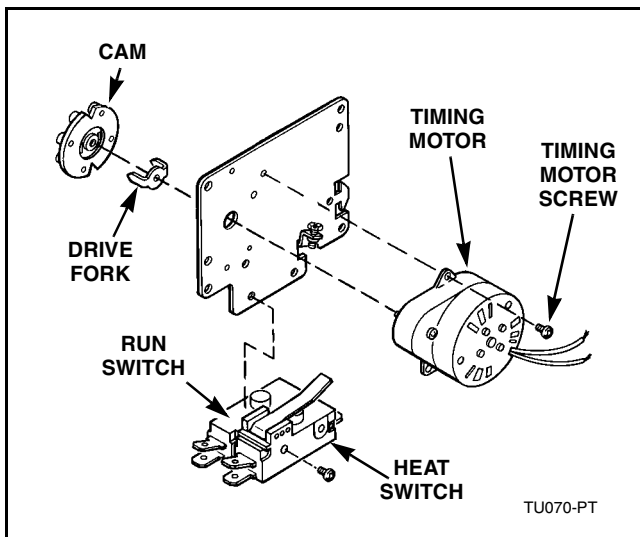

Figure 8
- Remove two screws holding timer motor to coin meter. Refer to *Figure 8*.
- Remove timer motor from cam, drive fork, and coin meter. Refer to *Figure 8*.
- Remove two screws holding switches to coin meter. Refer to *Figure 8*.